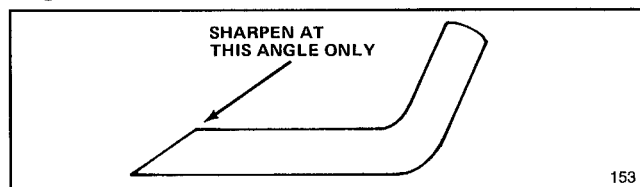

Figure 23
**6. SHARPENING BLADE**—Using a file, sharpen top side of blade and maintain original cutting angle (Fig. 23). The blade will remain balanced if same amount of material is removed from both cutting edges.